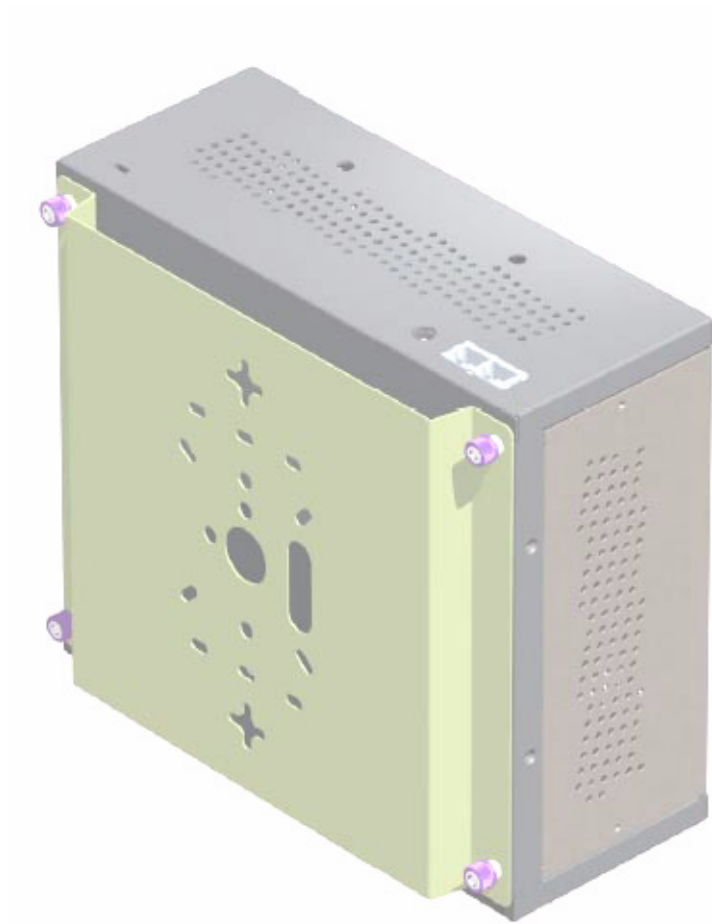

Figure 41: Bracket Attached to RS4000
1. Remove the bracket from back side the RS4000, if it is attached, by unscrewing each of the 4 knurled thumbscrews (see Figure 41).